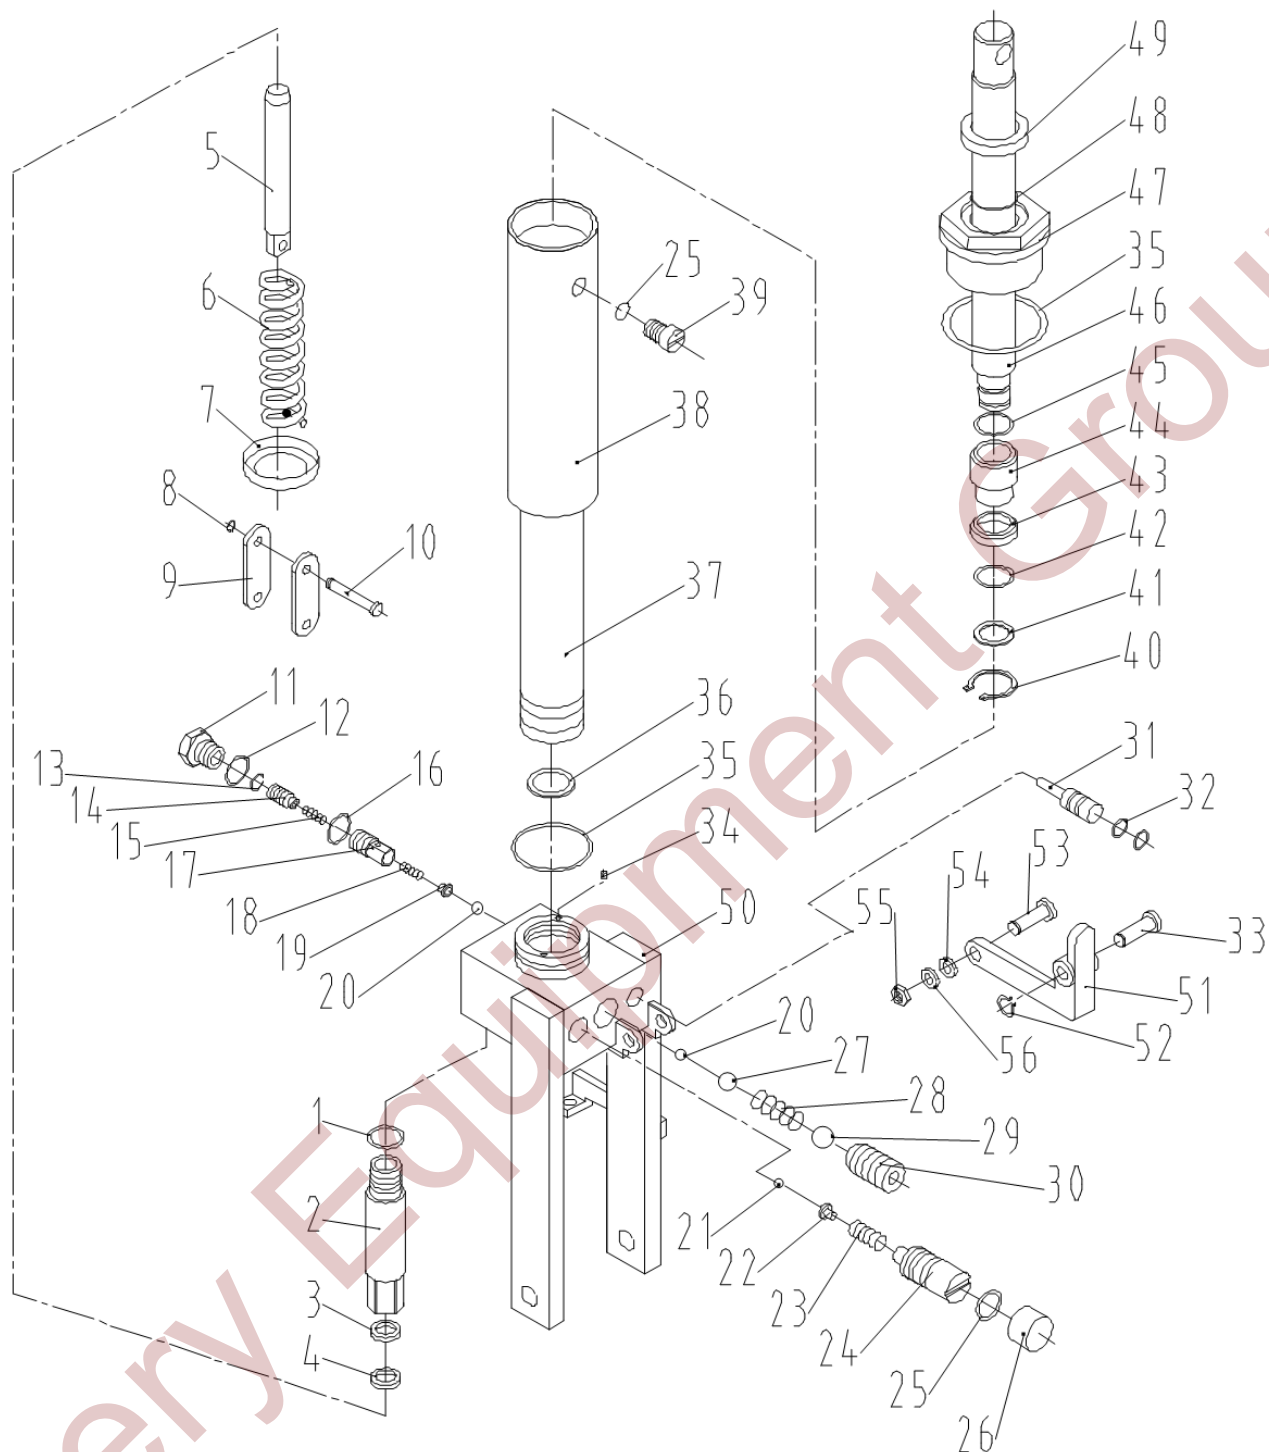

Figure 1
Screw out the 11[#] sealing screw in the pump (see figure 1 in the appendix) with a wrench; Pull the knob up; Unscrew the oil plug screw 39[#] and add hydraulic oil;
8. Materials of the sealing parts 1#,3#,4#,16#,25#,26#,32#,35#,36#,42#,43#,45#,48#,49# of the pump (see figure 1 in the appendix) is rubber, PU, whose maintenance interval is 2-year. Replace the sealings in time to avoid possible damage and poor performance of the truck.